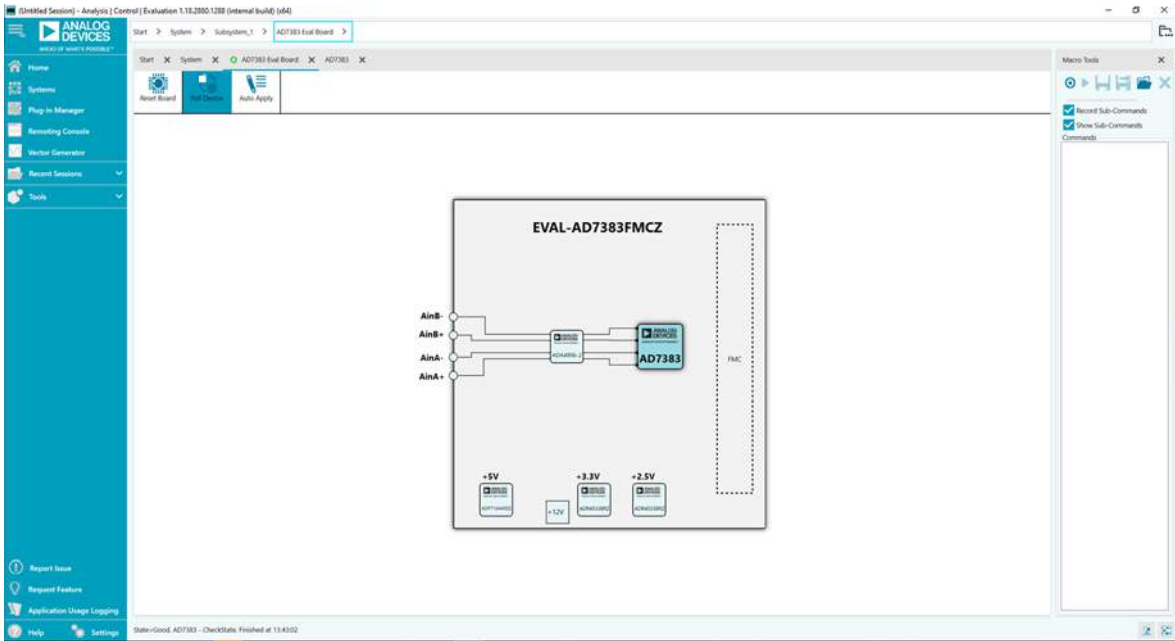

Figure 13. AD7383 Eval Board View Window
3. Double click the **AD7383 Eval Board** icon to open the **AD7383 Eval Board** view window shown in Figure 13.